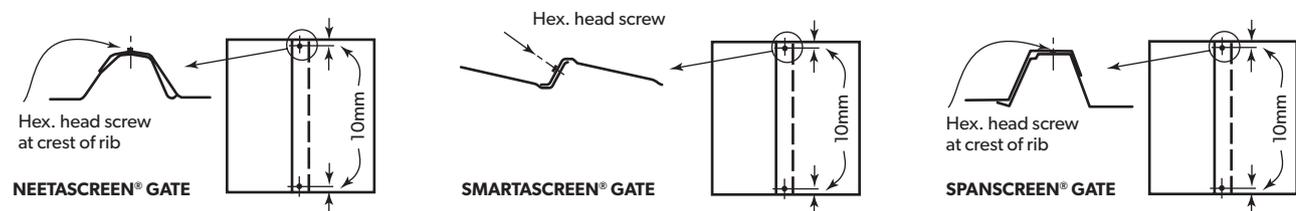

Figure 20.3
3. Using tin snips, notch the four corners. The top and bottom notches are different (Figure 20.3).
9. Check squareness by measuring the gate's diagonals. Drive a second hex. head screw (see below) in each of the four corners, at first inner rib (non side-lap rib) of infill sheet from the stile for NEETASCREEN®, SPANSCREEN® and SMARTASCREEN® (Figure 20.3).